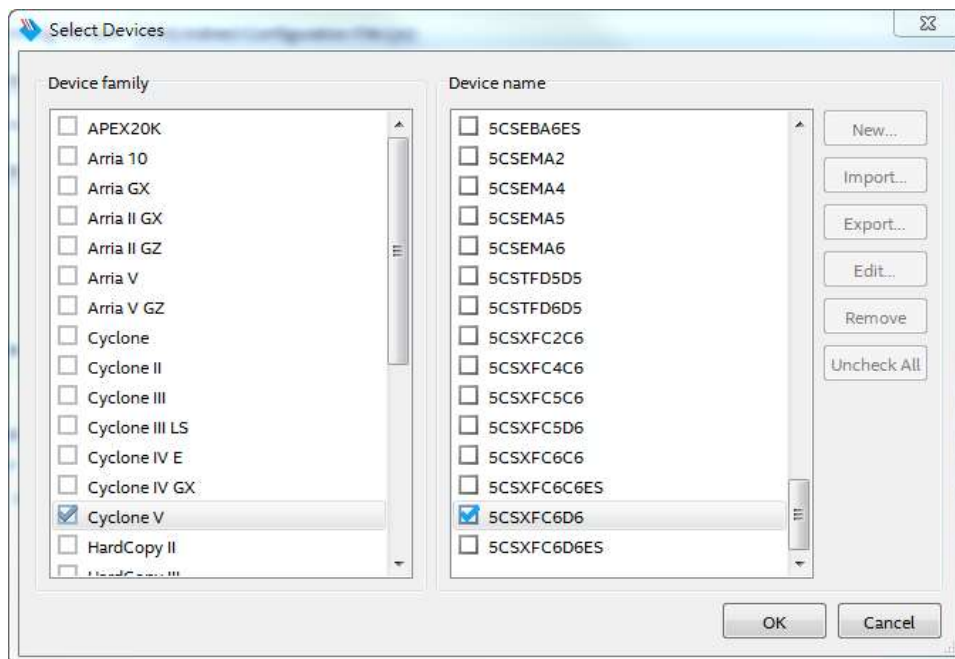

Figure 8-4 “Select Devices” page
12. Select the targeted FPGA to be programmed into the EPCS, as shown in Figure 8-4.